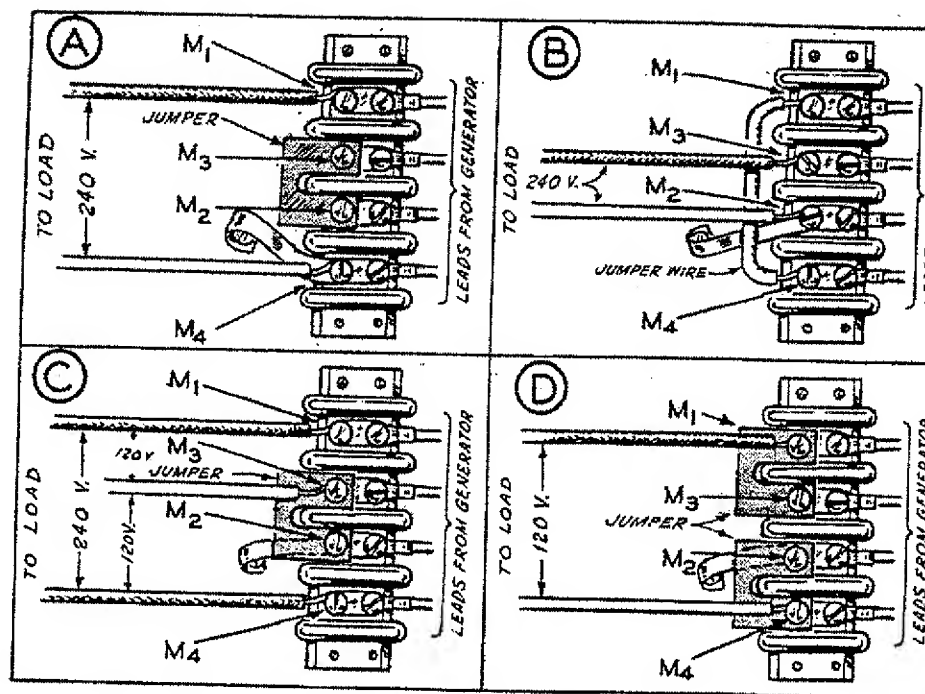

Fig. 6 Single Phase Plant
Load connections are to be made to terminals inside the terminal box on the side of the generator. These load terminals are marked M1, M3, M2, and M4 from top to bottom. When the plant is shipped, two heavy jumper bars are connected across terminals M3 and M2. This jumper connection provides for two 120 volt circuits (with 1/2 the plant capacity available on each separate circuit), or one 240 volt circuit. Refer to C, Fig. 6. For 120 volt service, connect the black (hot) wires to the M1 and M4 terminals, and the white (ground) wire to the M2 or M3 terminal. Remember that ONLY ONE HALF the rated capacity of the plant will be available on either of the two separate 120 volt circuits. The two black wires will give 240 volt ungrounded service.
If the full rated capacity of the plant at 120 volts ON ONE CIRCUIT ONLY, is desired, remove the two jumper bars from across terminals M3 and M2. Reconnect the jumper bars, one across terminals M1 and M3, and the other jumper across terminals M2 and M4. Connect the black (hot) load wire to the M1 terminal, and the white (ground) wire to the M4 terminal. Refer to D, Fig. 6.
If 240 volt current only is to be used, and NEITHER load wire is white (grounded), leave the jumpers connected across terminals M3 and M2. Connect load wires to terminals M1 and M4. Refer to C, Fig. 6.
1. Remove the two jumper bars connecting terminals M3 and M2, temporarily. Disconnect the short grounding wire from the M2 terminal and connect it to the M4 terminal. Reconnect the jumper bars across terminals M3 and M2. Connect the black (hot) load wire to the M1 terminal, and the white (grounded) load wire to the M4 terminal. Refer to A, Fig. 6.
2. Remove (and save for possible future use) the two jumper bars connecting terminals M3 and M2. Using a short length of #10 or larger wire, connect terminals M1 and M4 together. Connect the black (hot) load wire to the M3 terminal, and the white (grounded) load wire to the M2 terminal. Refer to B, Fig. 6.
Be sure the jumper connections are properly made, as explained under VOLTAGE SELECTION, SINGLE PHASE PLANT. Connect the load wires to the proper terminals as shown, according to the jumper connections made, Fig. 6.
Some early plants with SPEC designation ending in the letter "A" were not internally grounded. If inspection shows that there is no ground jumper wire between the M2 terminal and a grounding screw inside the terminal box (Fig. 6), a similar ground connection must be made. Run a short length of No. 10 wire between the battery negative terminal and the M2 terminal, if 115/230 volt service is to be used. If grounded 230 volt service is to be used, connect the ground jumper to the M4 terminal, instead of to the M2 terminal. **BE SURE THIS GROUND JUMPER WIRE IS PRESENT IN ALL CASES WHERE USING AUTOMATIC CONTROL EQUIPMENT.**